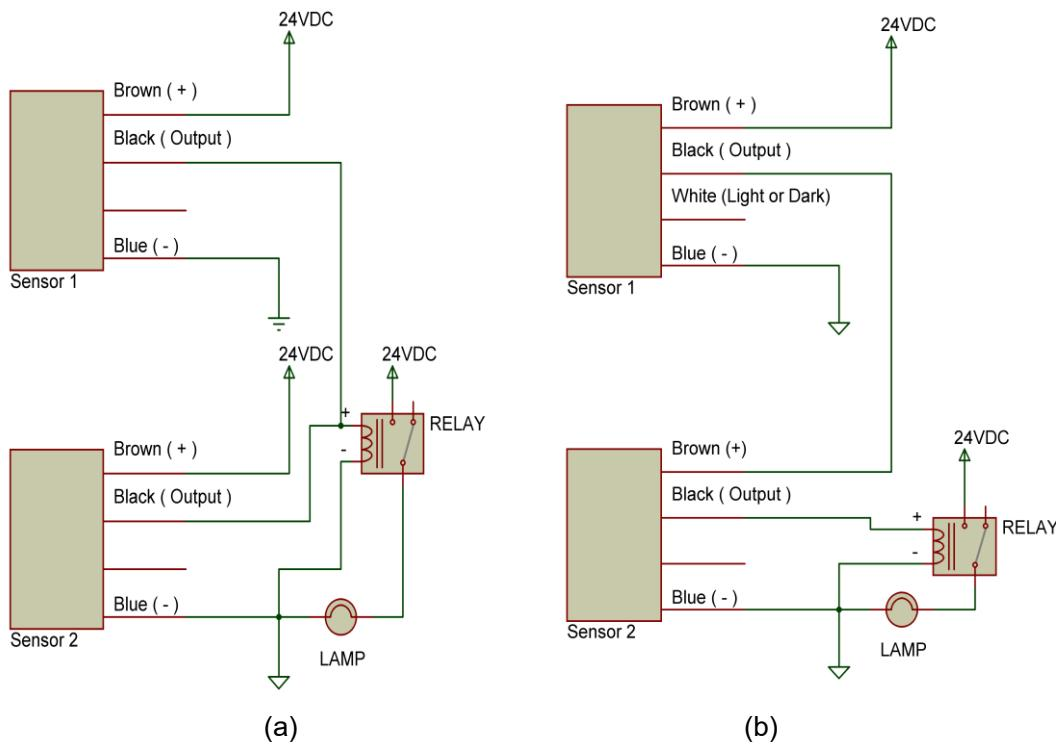

Figure 23: Circuit diagrams of combining PNP sensors (a) “ORing” and (b) “ANDing”
4. Repeat steps 1-3 using each of the circuit diagrams shown in Figures 23 (a) and (b) accordingly.